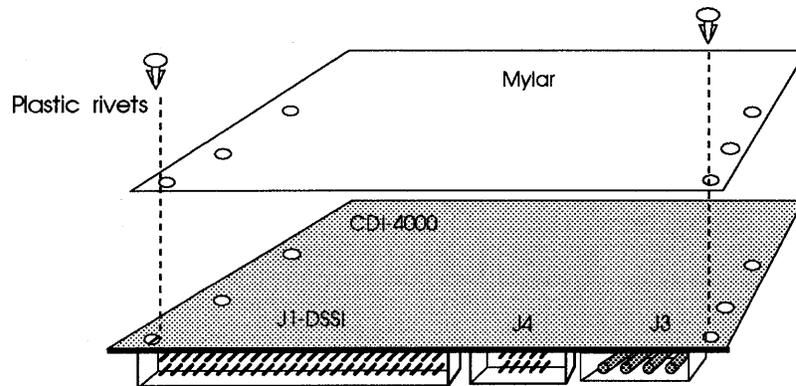

Figure 5-1: Connecting mylar to the CDI-4000
- 2 Assemble the mylar insulator to the solder side of the CDI-4000 placing the two plastic rivets in the corner holes next to J1 and J3. See Figure 5-1.